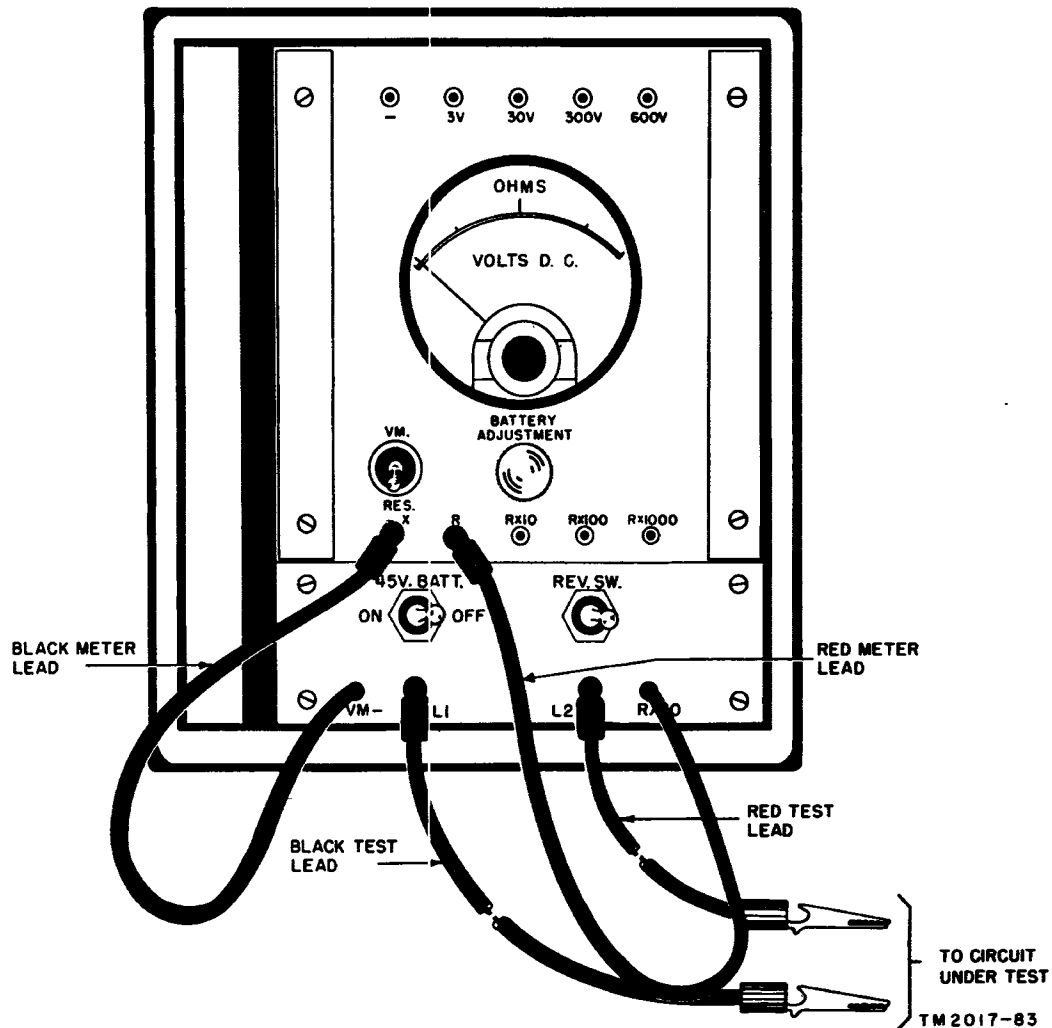

Figure 15. Test Set TS-26(\*)/TSM, arranged for measurements between 0 and 1,000 ohms.
- b. Resistance Measurements* (figs. 15 through 20). Perform the following procedures before making resistance measurements.
- (1) Push the 45V. BATT. switch to the OFF position for measurements smaller than 1 megohm.
- (2) Push the 45V. BATT. switch to the ON position for measurements larger than 1 megohm.
- (3) Push the VM.-RES. switch to the RES. position.
- (4) Place the pin of the black meter lead in the X jack. *For measurements larger than 1 megohm, with Test Sets TS-26A/TSM and TS-26B/TSM only, place the pin of the black meter lead in the - (negative) jack.*
- (5) Place the pin of the red meter lead in one of the following jacks:
- (a) R jack for measurements between 0 and 1,000 ohms (fig. 15).
- (1) If the 0- to 1,000-ohm range is being used (fig. 15), read the OHMS scale directly. In this case, the resistance is 20 ohms.